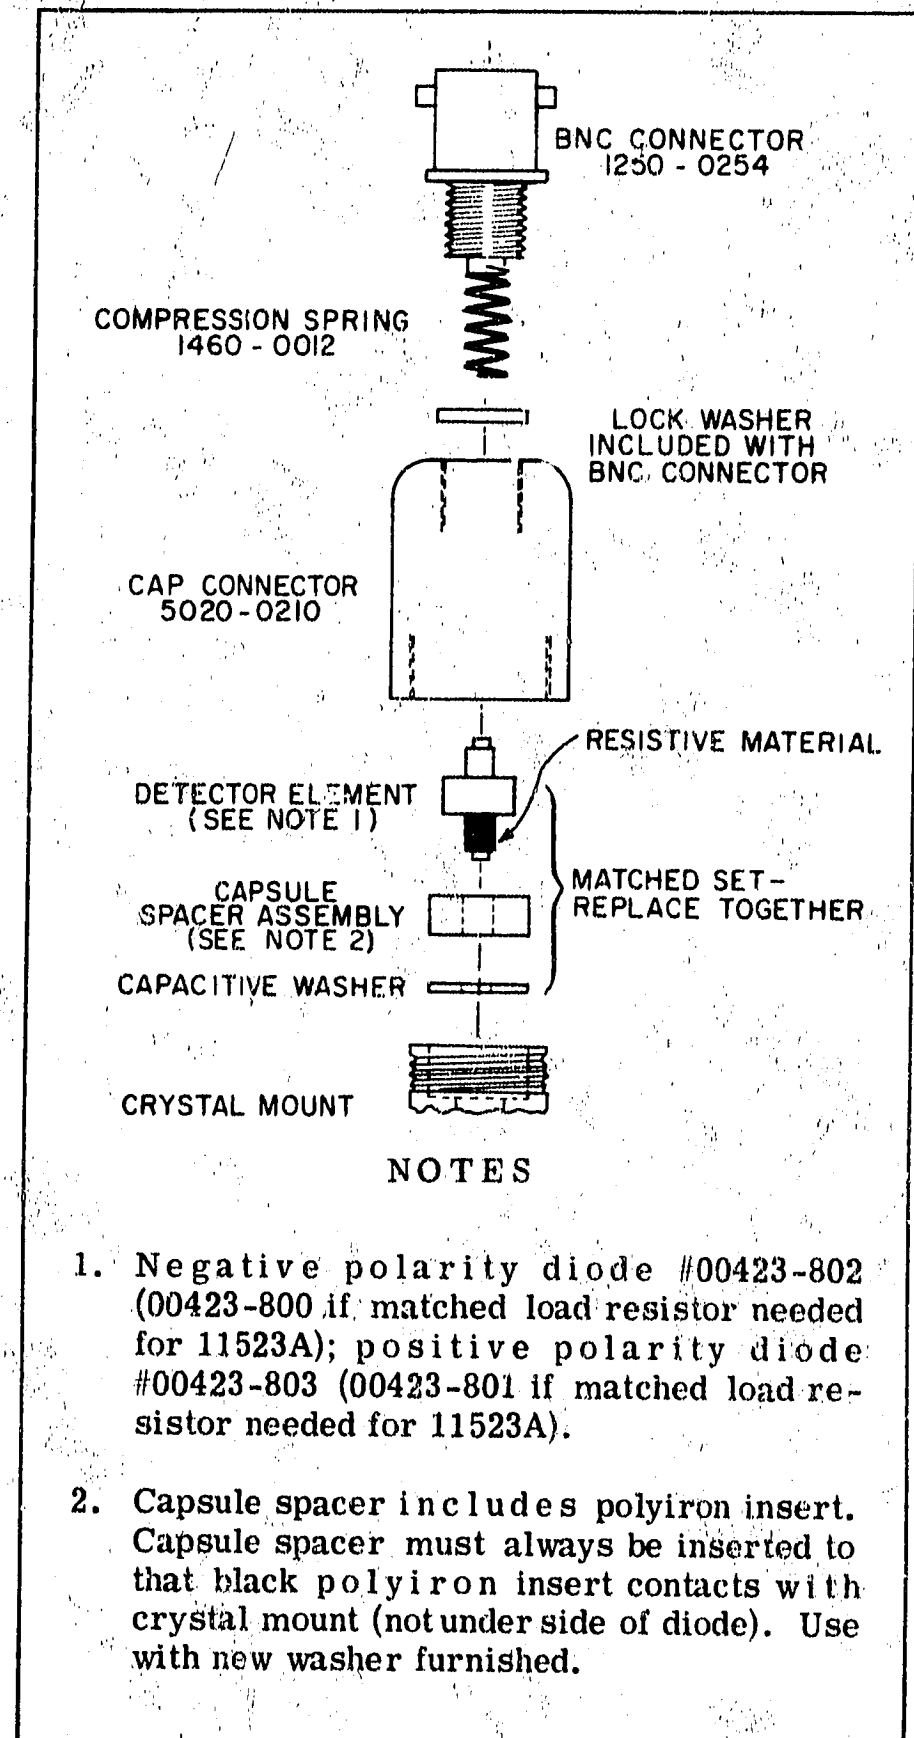
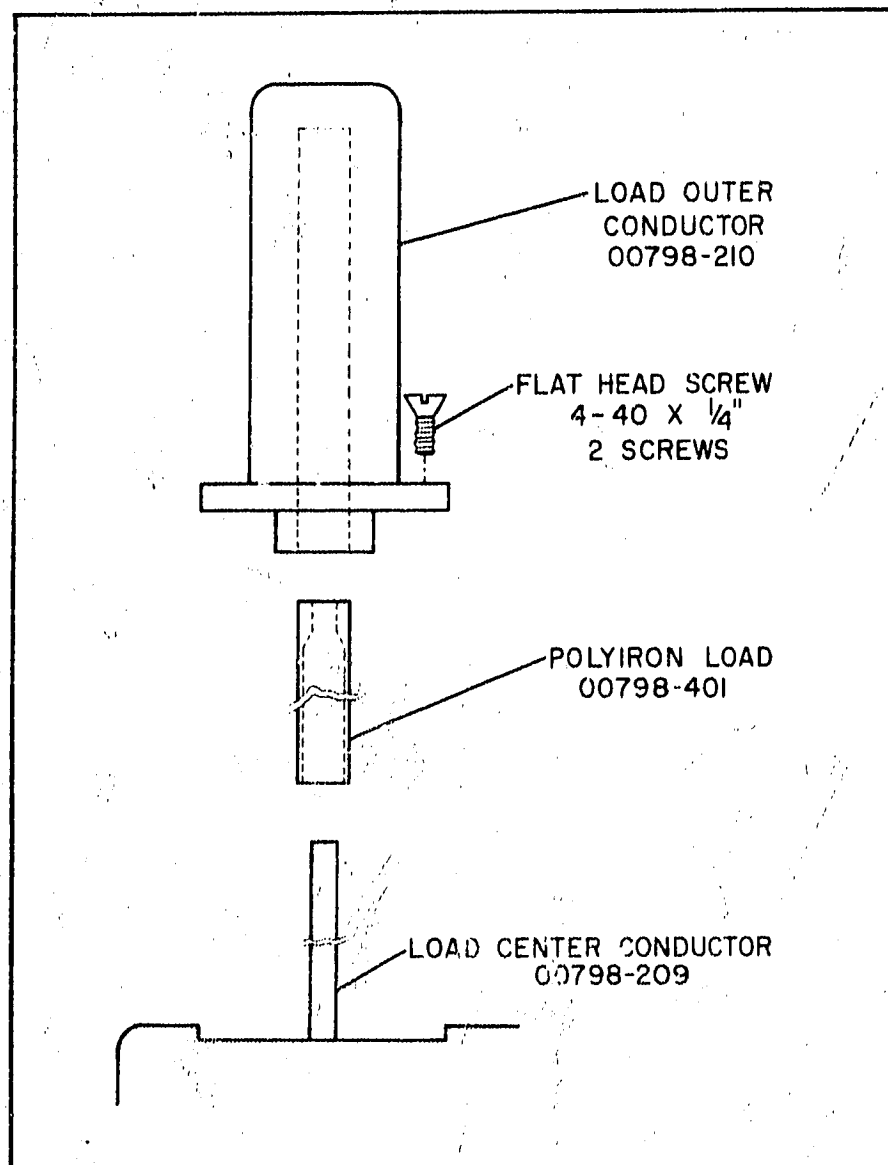
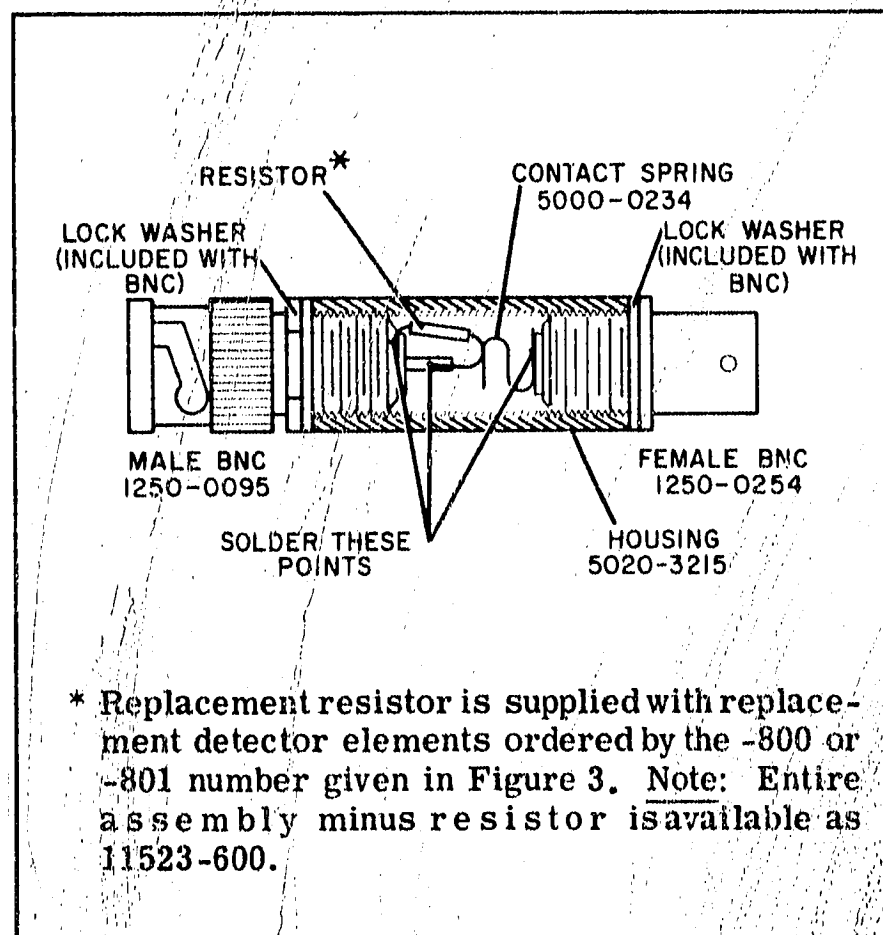

Figure 3. Detector Unit Assembly
Figure 4. 788C Load Assembly
Figure 5. 11523A Cutaway View
26. Succeeding paragraphs give instructions for repair of the directional detector and the 11523A (Option 02) Load Resistor. Figure 3 illustrates the replaceable detector assembly for the 786D, 787D, and 788C. Figure 4 illustrates the replaceable load assembly for the 788C, 786D, and 787D load assemblies are not field-replaceable. Figures 5 and 6 illustrate the replaceable 11523A load resistor assembly. Stock numbers required when ordering replacement parts are given in the respective assembly illustrations. To order a replacement part, address order of inquiry to your local Hewlett-Packard sales and service office (see listings at the rear of this Note).
The detector element (see Figure 3) can be damaged electrically by incorrect handling. Read the following handling precautions before doing anything which involves detector element.
- a. Note Figure 3 and remove connector cap from body. To remove connector cap, use gas pliers with nylon jaws or protect connector body with heavy paper or tape.
A resistor is included with each replacement detector element ordered by the -800 or -801 number given in Figure 3. The resistor is for use in 11523A Load Resistor and must be installed to retain proper square-law operation if the directional detector is equipped with this optional load.
- a. Refer to Figure 3. Remove BNC connector and lockwasher.
- a. Refer to Figure 4. Remove two retaining screws and the load outer conductor.
- a. Refer to Figure 5. Unscrew male BNC and lockwasher from housing by using a 3/8-inch open-end wrench and holding housing either in a vise or with gas pliers.